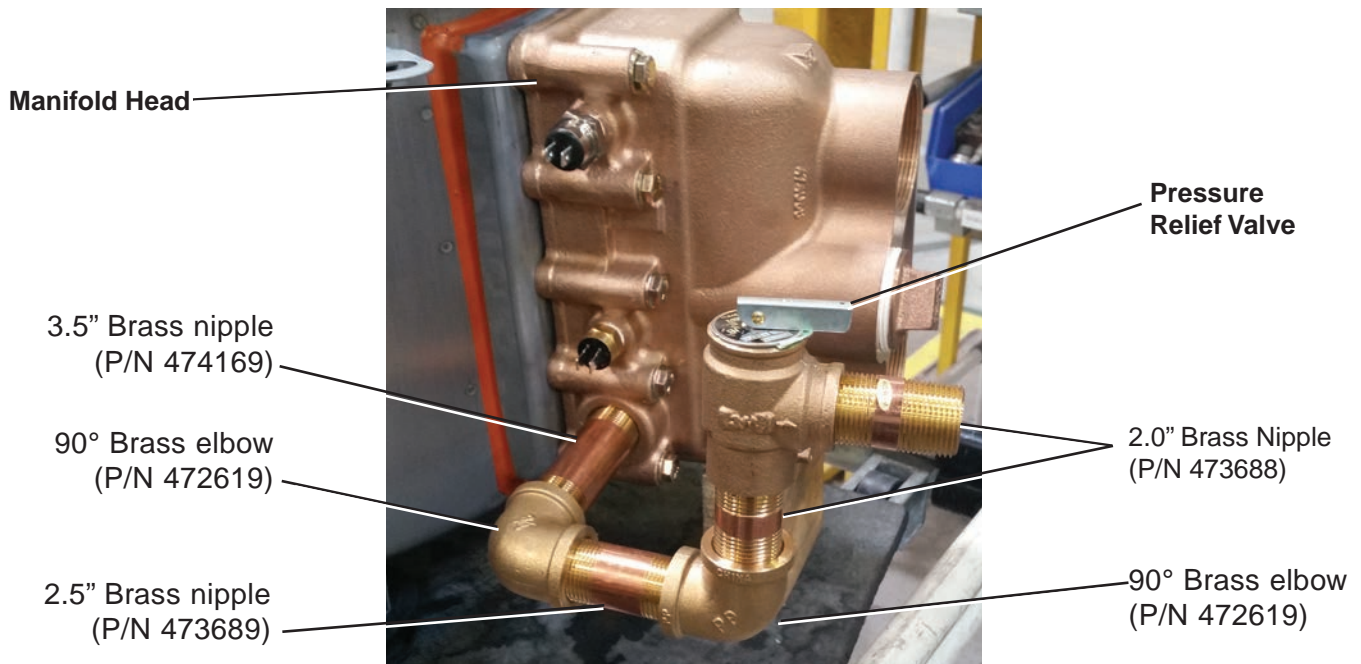

Figure 2.
Canadian code requires and some U.S. local codes may require installation of a Pressure Relief Valve (PRV). Purchase separately and install a 3/4" pressure relief valve complying with the ANSI/ASME Boiler and Pressure Vessel Code, having a capacity equal to the Btu/hr rating of the heater. The relief pressure of the valve **MUST NOT EXCEED 50 PSI**. The relief valve must be installed vertically. To install the valve, use a 3/4" x 3.5" brass nipple at the manifold, two brass elbows and three nipples (provided in kit), see Figure 2 on next page. No valve is allowed to be placed between the manifold adapter and the relief valve. To avoid water damage or scalding from operation of the relief valve, install a drain pipe in the outlet of the pressure relief valve that will direct water discharging from the valve to a safe place for disposal. Do not install any reducing couplings or valves in the drain pipe. The drain pipe must be installed so as to allow complete drainage from the valve and drain line. ***The relief valve should be tested at least once a year by lifting the valve lever.***
2. Connect the 3.5" brass nipple into the manifold head threads. Use a wrench to tighten. Do not overtighten. **See Figure 2.**